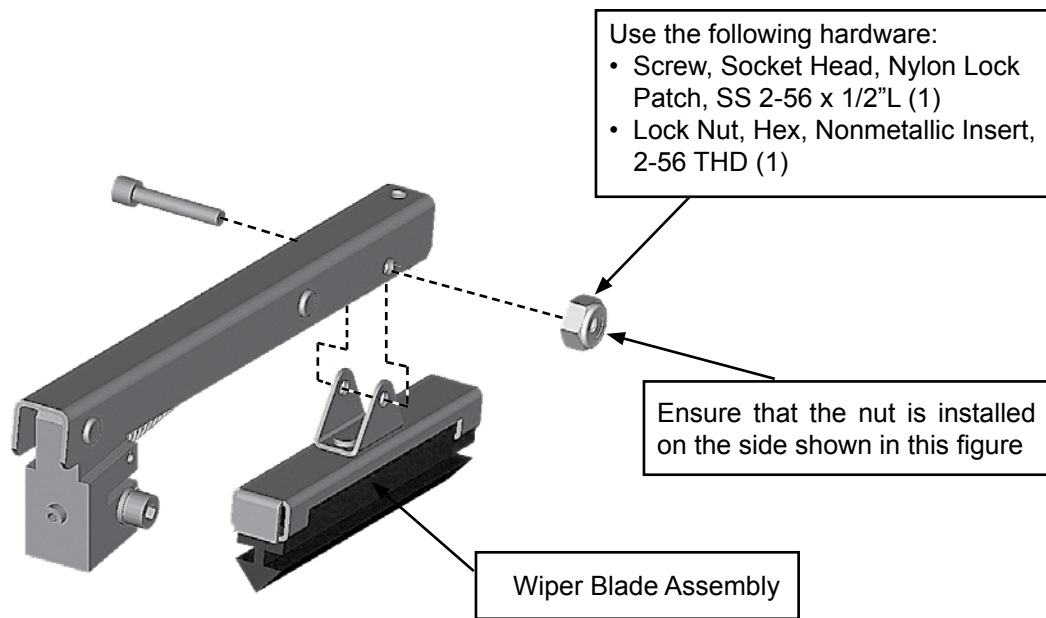

Figure 24. Wiper Blade Replacement
- replace the blade using 2-56 hardware (see figure 24)
NOTE: Ensure that the nut is installed on the side shown in figure 24.